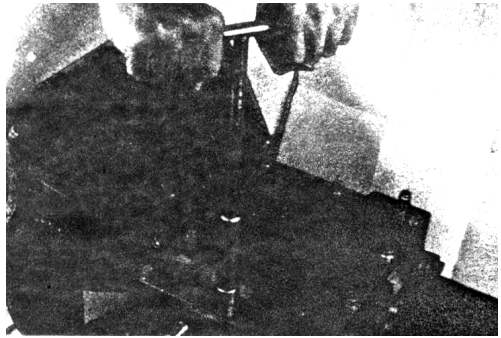

Fig. 3-15
(3) Remove the mounting bolts on the transmission case cover (Fig. 3-15).